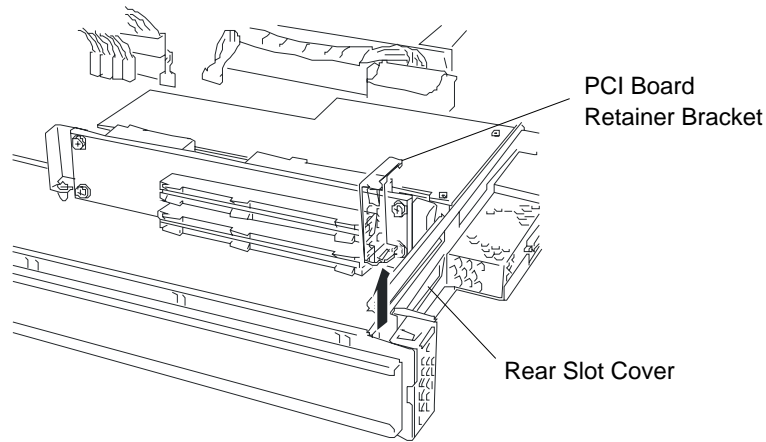

Figure 4-28. Rear Slot Cover and Retainer Bracket Locations
6. If present, unscrew the set, and remove the rear slot cover. Save the slot cover for future use. See Figure 4-28.
7. Remove the PCI Board Retaining bracket by pulling it straight up and away from the module. See Figure 4-28.